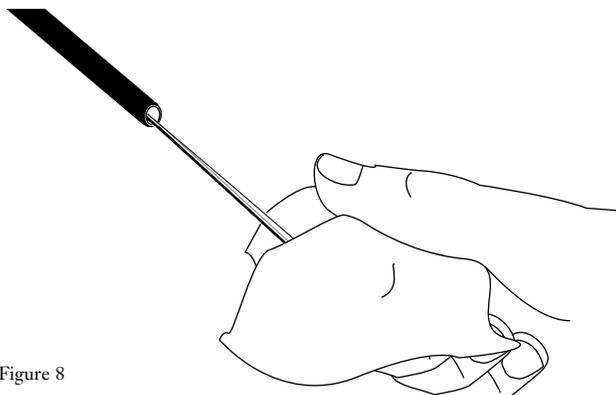

Figure 8
5.8 Using a lint-free tissue soaked with filling compound remover, clean the fibers (Figure 8). Use a dry tissue for final cleaning.